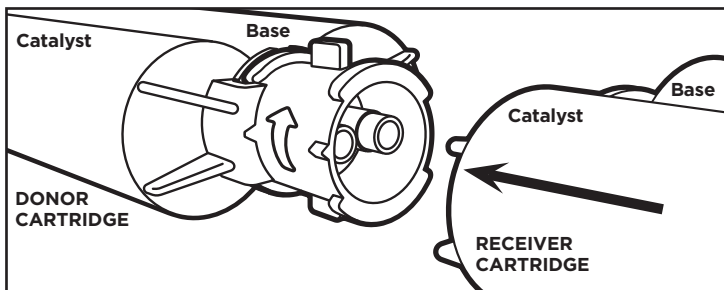

Figure 2. Slide receiver cartridge onto coupler and hold in place.
3. Slide receiver cartridge onto coupler and hold in place (Figure 2).